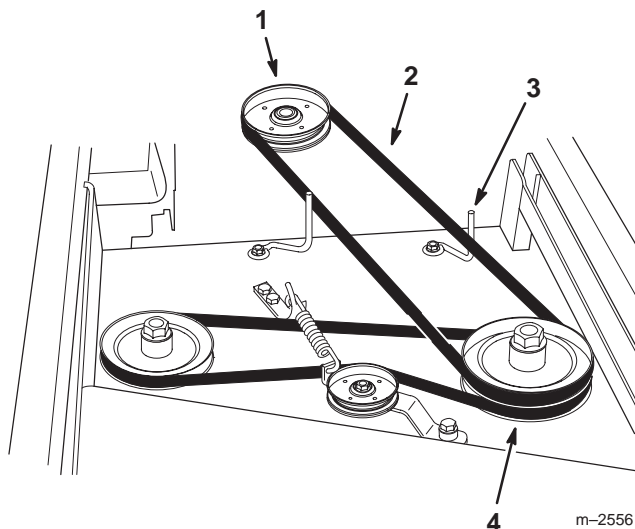

Figure 5
2. Install the drive belt around the drive pulley on the traction unit and the upper groove of the left spindle pulley. The belt must be between the belt guides (Fig. 5).